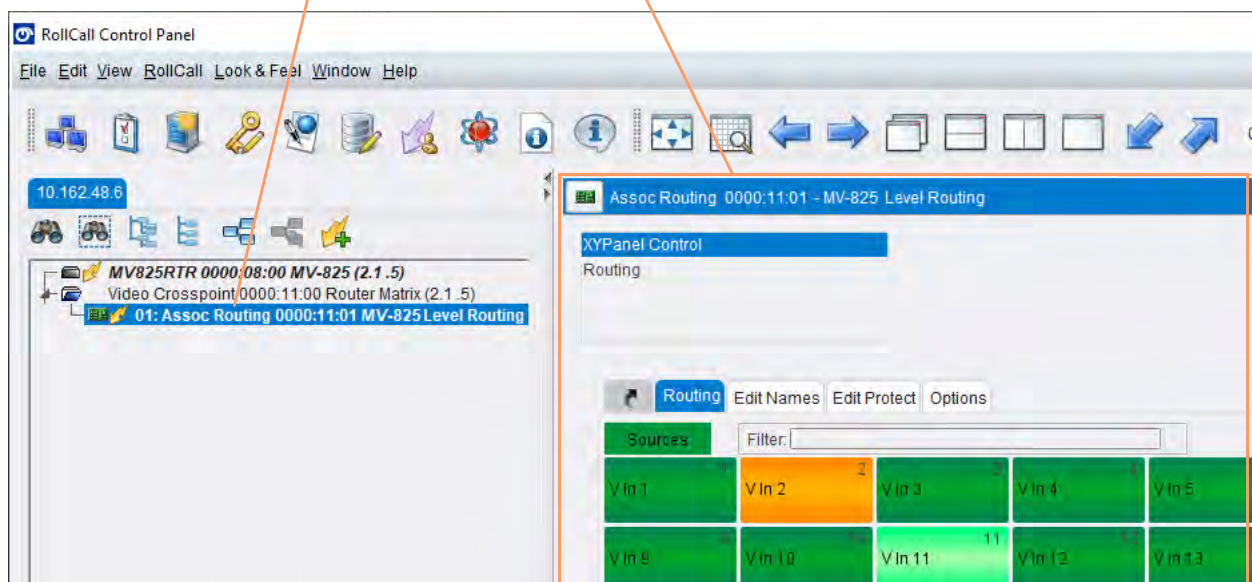

Fig. 6-4: MV-825-RTR Router Crosspoint Control Screen
The MV-825-RTR is shown and has the RollCall views shown in Figure 6-4.
- 3 Double-click on a crosspoint view item. See Figure 6-4.